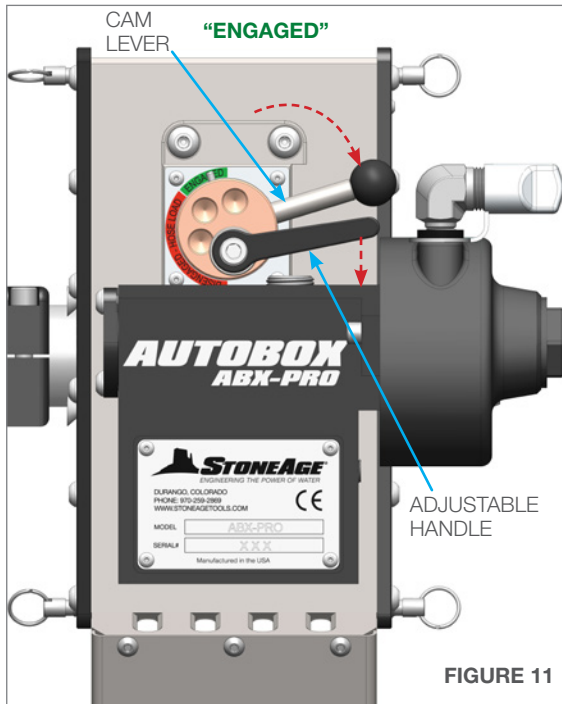

FIGURE 11
3. Rotate the Cam Lever clockwise to the **"Engaged"** position to tighten the Idler Roller down onto the hose. There should be a slow slip on the hose. If the slip is too tight or loose, move the Eccentric Lever off until a slow slip is obtained. Once the slip level is achieved, push down on the Adjustable Handle to tighten the bushing assembly. **(Figure 11)**